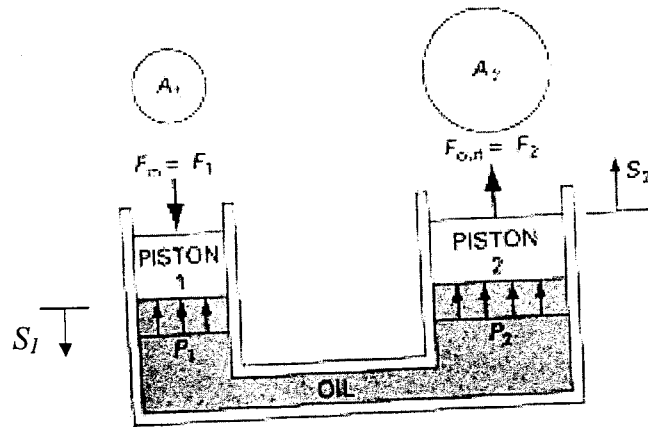

Figure S2.1
- a) Figure S2.1 shows a hydraulic press. The data is given as follows: